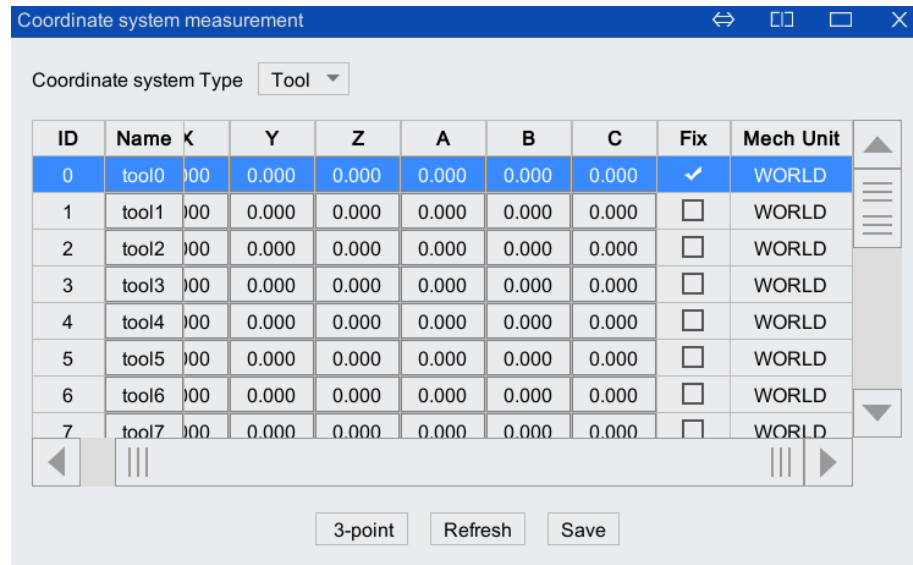

Figure 5-86 "Mechanical Unit" list
Step8. Click the mechanical unit box corresponding to the row of tool0, and a drop-down list will pop up, as shown in Figure 5-86, where you can choose WORLD or R1. When WORLD is selected, it means the fixed tool coordinate system is calibrated relative to the world coordinate system; when R1 is selected, it means the fixed tool coordinate system is calibrated relative to the robot base coordinate system.